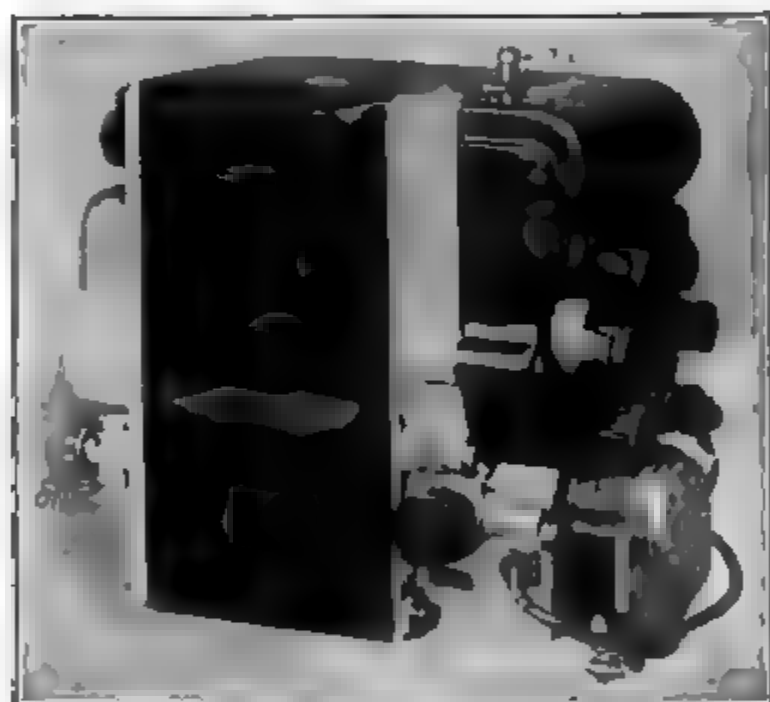

Fig 113. Westinghouse Generator with Ignition Distributor
**Generator Design Follows Magneto Precedent.** Several generator designs have been developed which resemble that of a magneto. In the Westinghouse generator, Fig. 113, and the Remy,